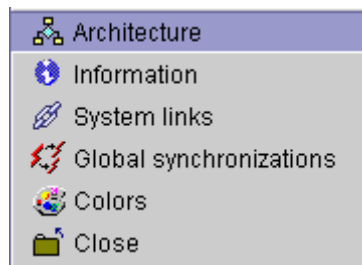

Figure 144 : contextual menu of a system
- ◆ Right click on the system to display the contextual menu (Figure 144):